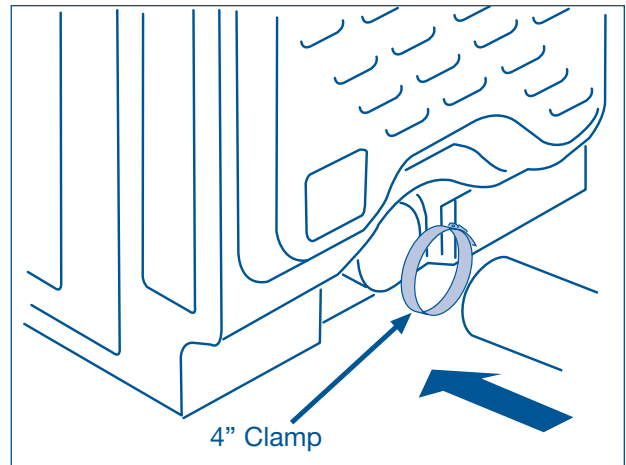

Figure 2-15.
1. Connect the exhaust duct to the outside exhaust system. Use of a 4" (10.2 cm) clamp is recommended to connect the dryer to the exhaust vent system. Use metal foil tape to seal all other joints. (See Figure 2-15)